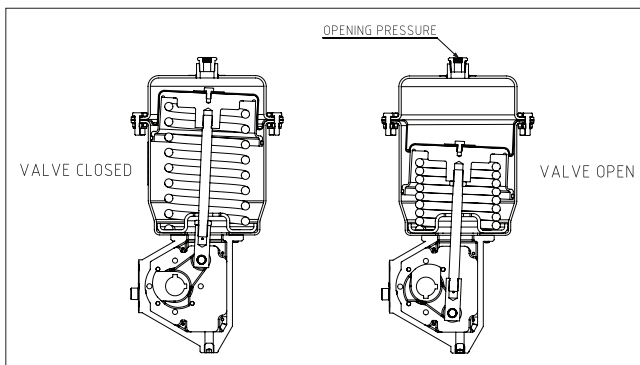

Figure 1. Operating principle
Pneumatic pressure is applied to the port marked "opening pressure" in Figure 1. Pressure builds up on the diaphragm (14) and diaphragm retainer (10), compressing the spring (43), and driving the actuator rod (4). The actuator rod turns the driver arm (3) and it's rotation is limited by the stop bolts (19). The spring (43) provides the required safety function; the valve either opens or closes if the air supply is interrupted. The standard QPX spring can rotate the valve clockwise and is typically used for a spring-to-close operation. For a counterclockwise operation, typically used for a spring-to-open operation, the actuator can be inverted or ordered with the "SO" option code.